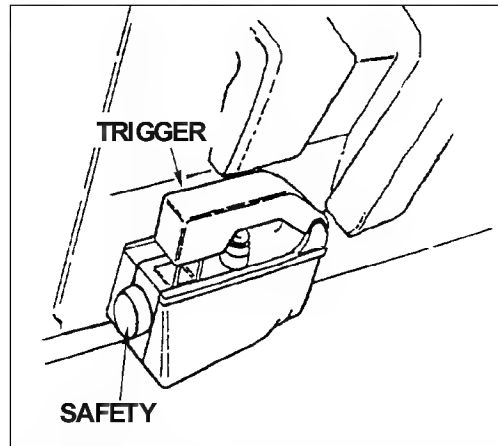

Figure B-10. Sight assembly—right side.
(1) The sight assembly has a daysight grip, a switch to select the daysight or nightsight, an eyepiece, a brightness control (BRT), a contrast control (CTRS), a sight focus ring, a thermal sight grip, and a headset jack. The eyepiece simulates both the daysight and nightsight eyepieces.
(2) On its right side (Figure B-10), the sight assembly has a safety and a right-hand trigger grip. Before the student can pull the trigger, he must first depress and hold the safety with his thumb.